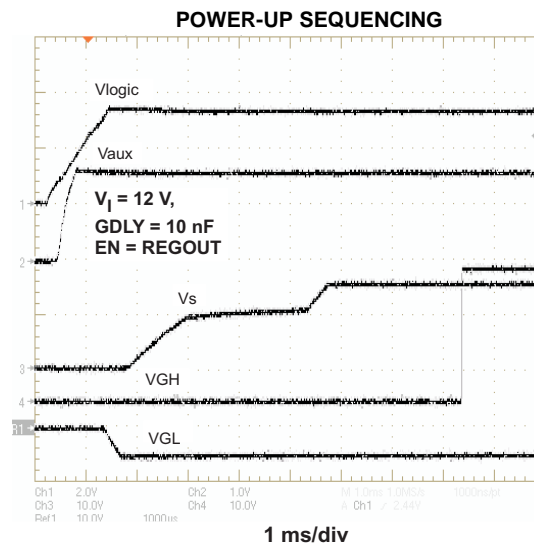
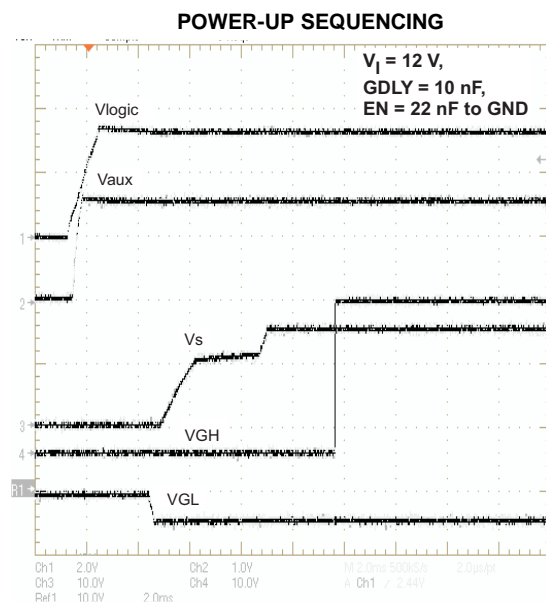
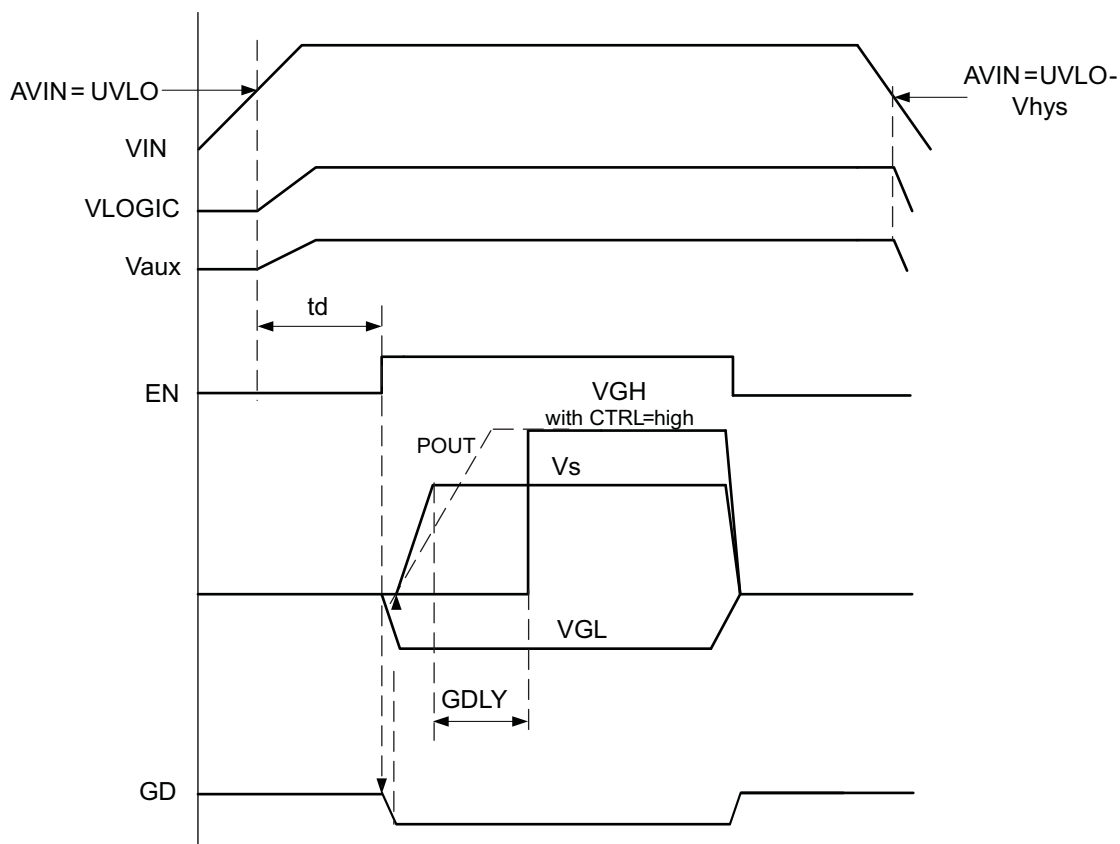

Figure 18.
Figure 19.
Figure 23. Power Up Sequencing
The device has an adjustable start-up sequencing to provide correct sequencing as required by LCD. When the input voltage exceeds the undervoltage lockout threshold, then the step-down converter and LDO controller start-up at the same time. As the enable signal (EN) goes high, the negative charge pump starts up followed by the boost converter Vs starting at the same time as the positive charge pump. See the typical curves shown in Figure 18, Figure 19, and Figure 23.
If no logic control signal is available, it is also possible to connect a capacitor to this pin to set the delay time t_d as shown in Figure 23 and Figure 19.